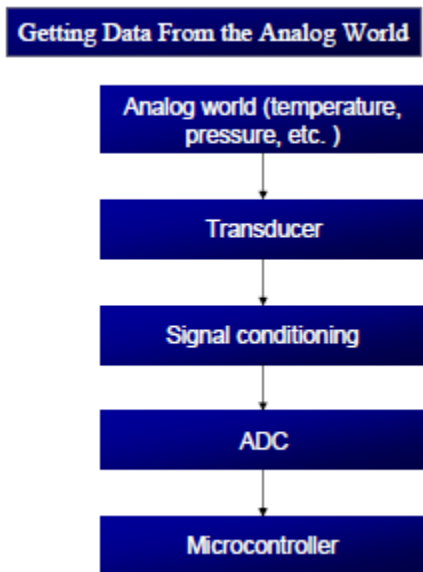

Figure 5.10 Getting Data from Analog World
- The above figure 5.10 shows the steps involved in acquiring data from analog world.